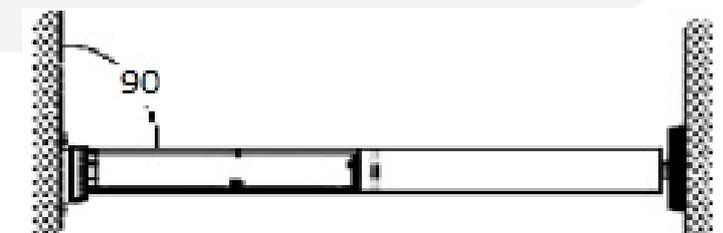

Fig.6.
### MANUAL CONTROL (fig.6)
- RollHan motor (with manual control) should be installed only horizontally, that is perpendicular to the mounting plate (fig.6.)